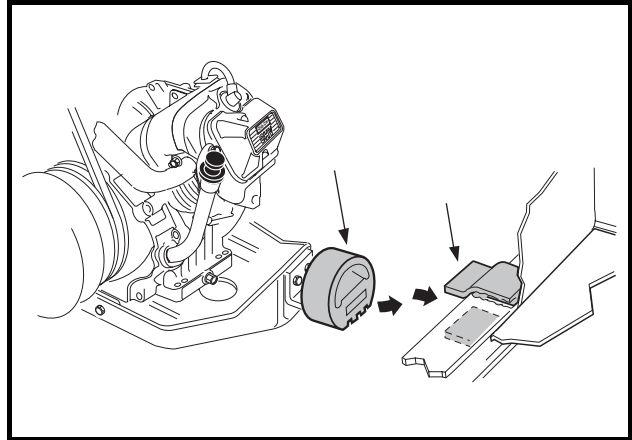

Figure 19-38 Snubber and Bracket
12. Remove the blocks from under the engine and roll the powertrain into position under the vehicle. Then lift the front of the powertrain and place the snubber into the snubber bracket in the vehicle frame (Figure 19-38, Page 19-15).